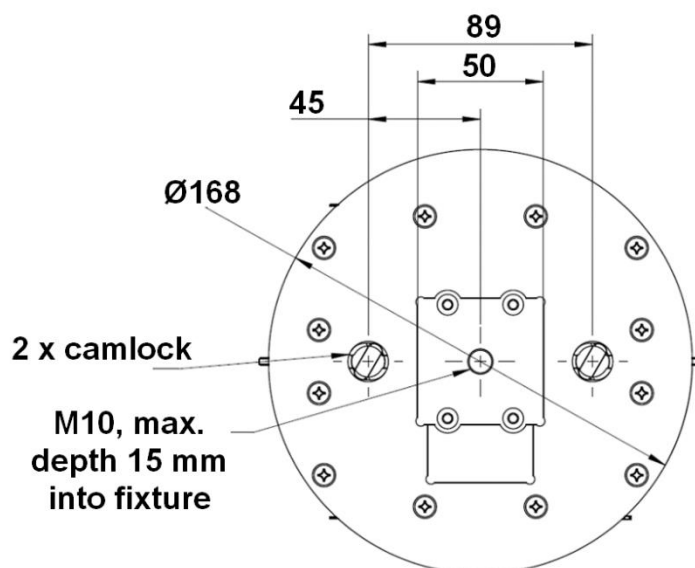

Figure 3. Mounting points in baseplate
See Figure 3. The fixture's baseplate has:
1. See Figure 3. Two camlock quarter-turn fastener points are provided in the baseplate. Line up the camlock pins in the supplied X5 Tripod floor stand with the camlock fastener points in the baseplate, then insert the pins fully and turn their handles 90° clockwise to lock.
2. See Figure 3 on page 16. Fasten the bolt through the half-coupler clamp and into the M10 threaded hole in the fixture's baseplate so that the clamp is held securely.
2. See Figure 3. Line up the two camlock quarter-turn pins in the omega bracket with the camlock fastener points in the base of the fixture and turn both locking levers a full 90° clockwise to lock the brackets to the fixture.